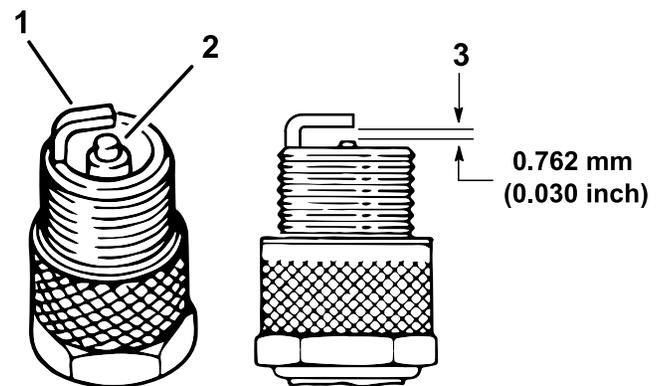

Figure 45
4. Check the condition of the side electrode, center electrode, and center electrode insulator to ensure that there is no damage (Figure 45).
5. Set the air gap between the center and side of the electrodes at 0.76 mm (0.03 inch) as shown in Figure 45.